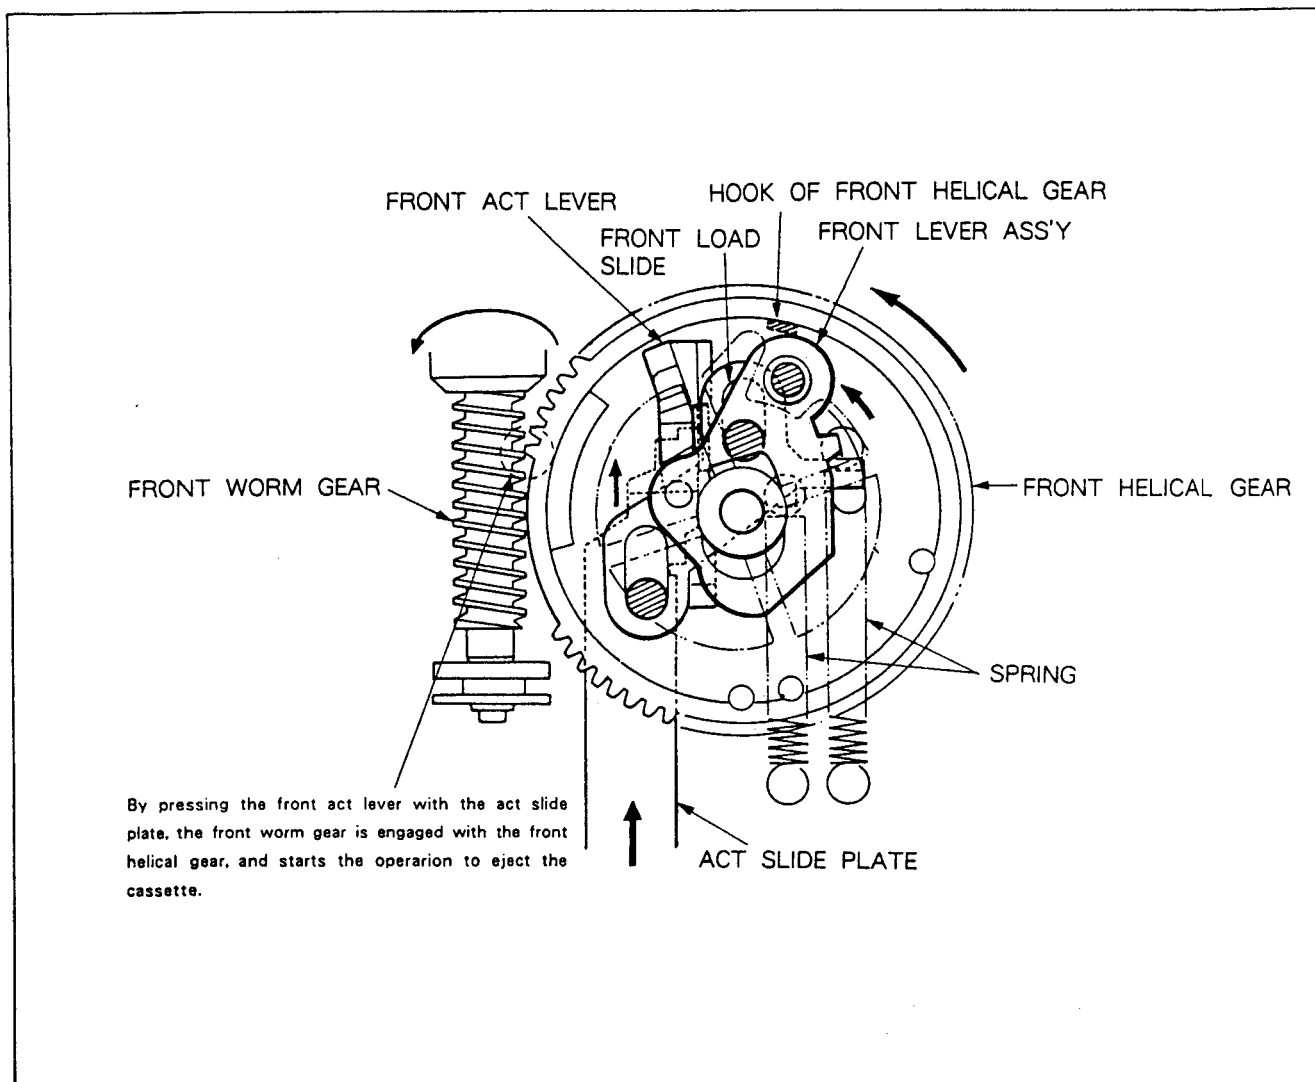

Fig. 1-17. Cassette Ejection Start Operation (See through top view)
When ejecting the cassette from the inserted state shown in Fig. 1-14 ③, the FRONT ACT LEVER is pushed in the direction of arrow due to the ACT SLIDE PLATE moves in the direction of arrow shown in Fig. 1-17. As a result, the FRONT LEVER assembly is turned counterclockwise via the FRONT LOAD SLIDE to cause the FRONT HELICAL GEAR to be engaged with the FRONT LOAD WORM GEAR of the loading motor. At that time, the loading motor is being rotated counterclockwise, so that the FRONT HELICAL GEAR is caused to be rotated